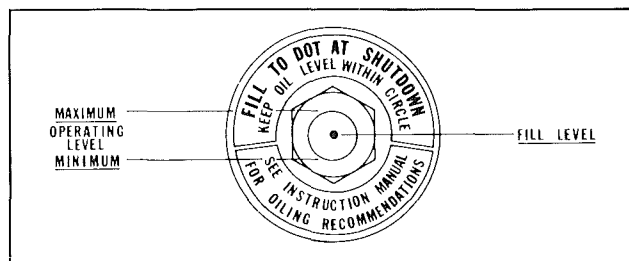

Figure 3 — Oil Level Gauge
Oil sumps on each *each* end of the blower are filled by removing top plugs, Item (22), and filling until oil reaches the *middle* of the oil level gauge, Item (45). See Figure 3.